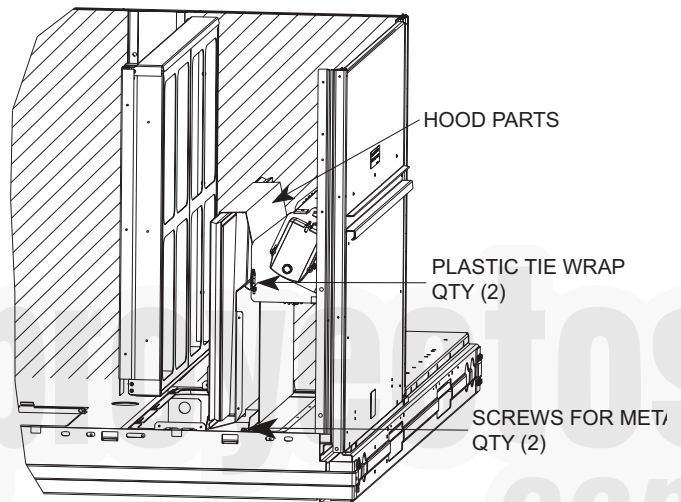

Fig. 16 — Economizer and Two-Position Damper Hood Parts Location
3. Locate the (2) screws holding the metal tray to the basepan and remove. Locate and cut the (2) plastic tie-wraps securing the assembly to the damper. (See Fig. 16.) Be careful to not damage any wiring or cut tie-wraps securing any wiring.